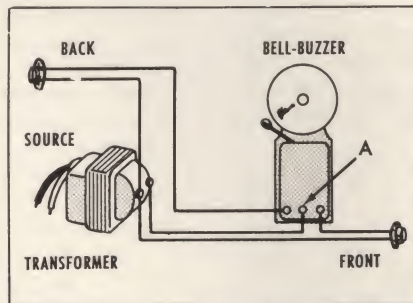

FIG. 79—COMBINATION BELL-BUZZER CIRCUIT
**COMBINATION DOORBELL-BUZZER.** The buzzer for the back door and the bell for the front door can be combined into one unit operating on the same circuit, as shown in Fig. 79. The com-